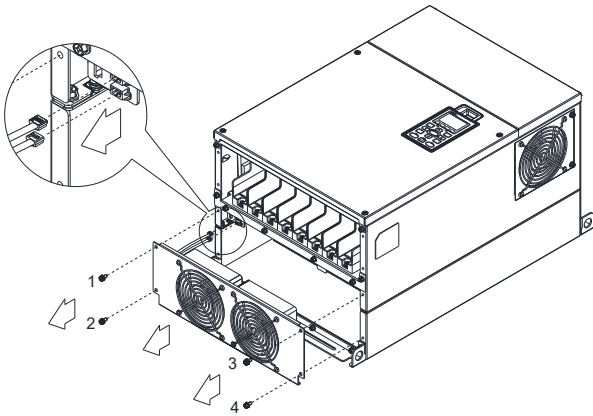

Figure 1
1. Loosen screw 1-4 (figure 1) and disconnect fan power and pull out the fan. (As shown in the enlarged picture 1) Screw1-4 Torque: 24-26 kg-cm / [20.8-22.6 lb-in.] / [2.4-2.5 Nm]